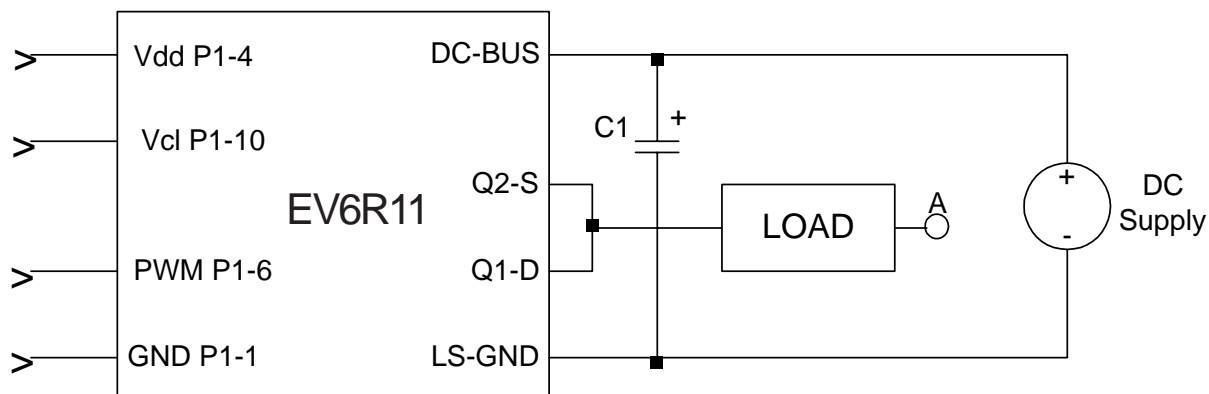

Figure 4: Evaluation Board & Load Termination
c) Be careful with ground connections. Avoid ground loops. In general, connect the grounds as shown in Figure 4 to minimize ground bounce effects. This is particularly important when three "High/Low side driver design kits" are connected together with a single IXDP630
d) Before using the PCB at full power or attempting a short circuit test, make sure that a proper high voltage electrolytic capacitor is connected between DC BUS and GND as shown in Figure 4. The leads to this capacitor should be as short as possible to minimize any stray inductance.
e) Figure 4 shows the load terminated at point A. This point could be connected to a number of places depending on the application. For example: Connection to ground will test the high side device. Connection to DC BUS will test the low side device. It could also be connected to the center point of a capacitive divider (UPS systems).